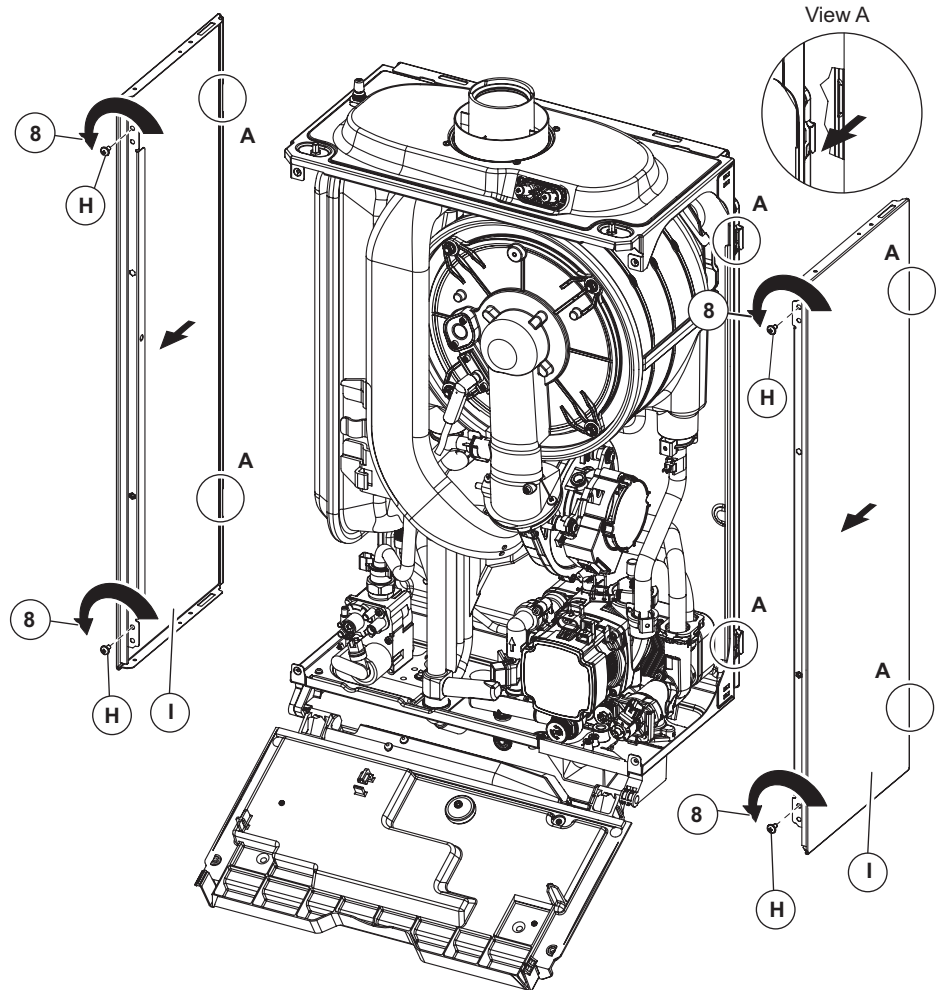

**Fig. 7.3**
**Control panel - Fig. 7.3**
- 6. Press the hooks on the side of the control panel (G).
- 7. Tilt the control panel (G) towards you.